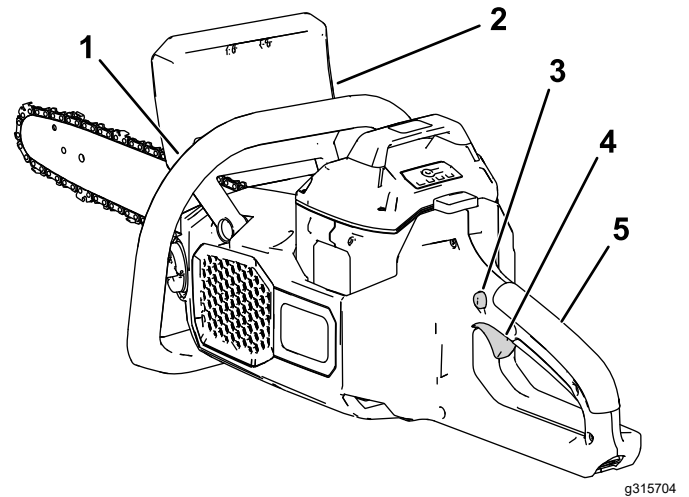

Figure 11
7. With your left hand on the front handle and your right hand on the rear handle, press the trigger lock, then squeeze the trigger (Figure 11).